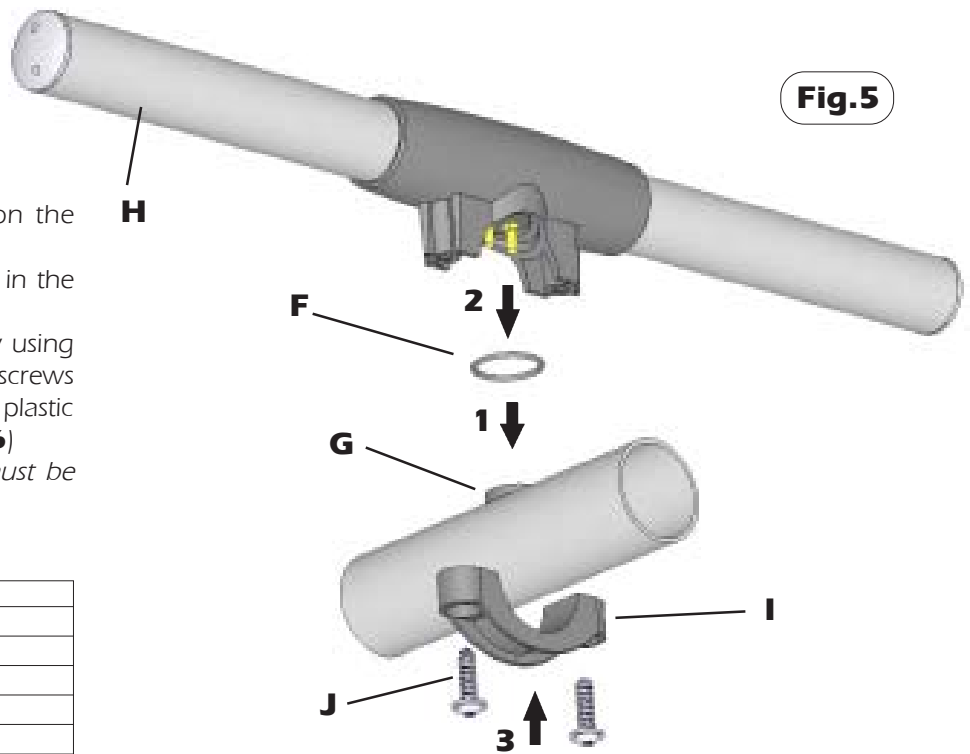

Fig.5
- 1)** Place the O-ring gasket **F** on the dipole connector **G**. (See **Fig.5**)